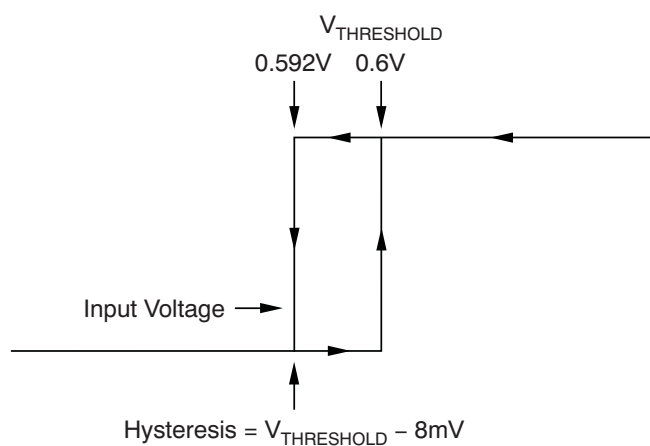

图 1. Typical Comparator Hysteresis
- (1) Hysteresis refers to the threshold (the threshold specification applies to a rising edge of a noninverting input) of a falling edge on the noninverting input of the comparator; refer to Figure 1.
- (2) Specified by design.
- (3) V_{ID} refers to the differential voltage at the comparator inputs.
- (4) Open-drain output can be pulled to the range of 2.7 to 18 V, regardless of V_S .
- (5) The comparator response time specified is the interval between the input step function and the instant when the output crosses 1.4 V.
- (6) The RESET input has an internal 2 M Ω (typical) pull-down. Leaving RESET open results in a LOW state, with transparent comparator operation.